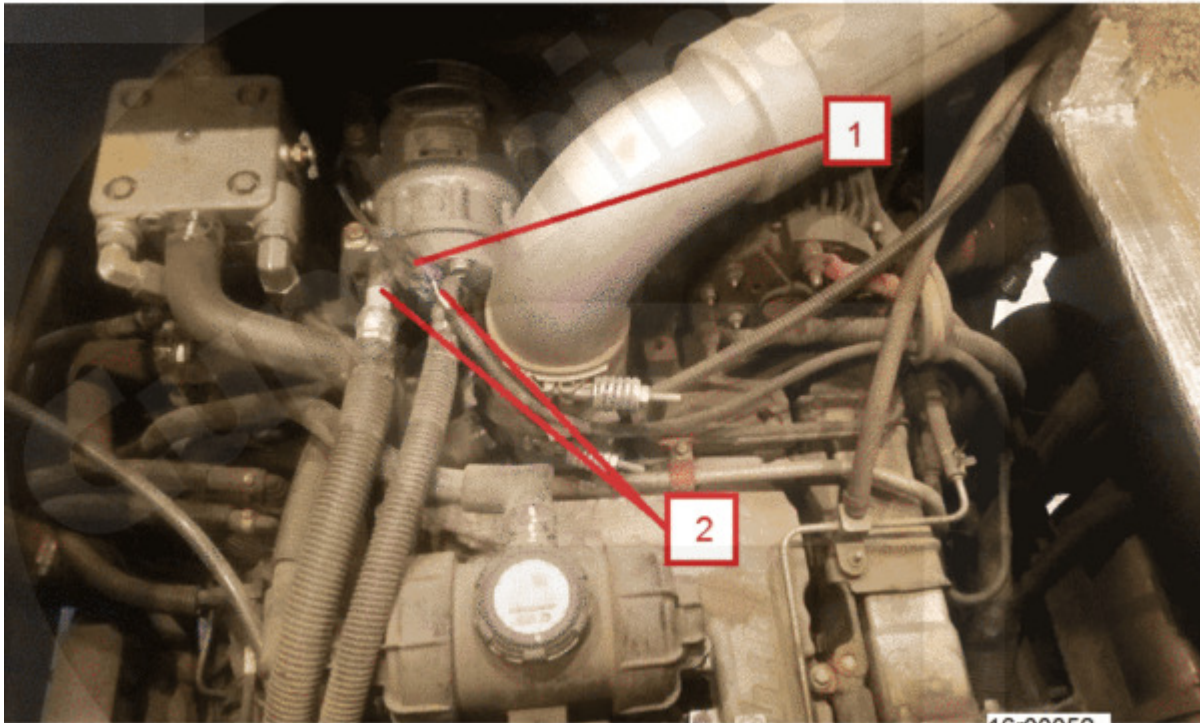

Figure 7, OEM as built wiring harness routing to refrigerant compressor.
- a. Disconnect wiring connector at refrigerant compressor. Figure 7